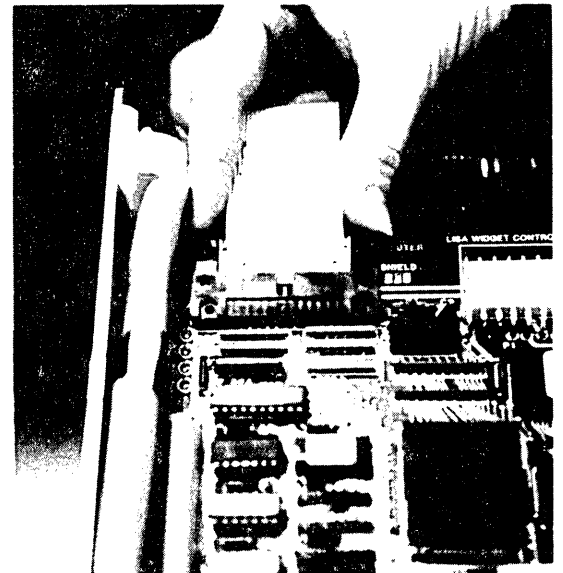

FIGURE 6
8. Identify the HDA connector located at the left of the power connector. It has ejection latches on either side of the connector. (See Figure 6.)